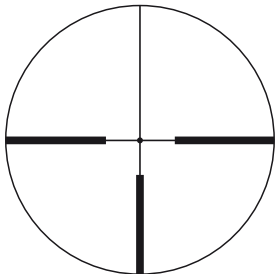

Fig. 3-1
(1) Focusing
- ① Look through the eyepiece with your eye positioned about 10 cm (4 in.) away from the eyepiece to see the IL #4 reticle w/Dot (Fig. 3-1). Be sure your eye is positioned with proper alignment and with proper eye relief, otherwise the view will “black out.”
- ② Point the objective end of the scope at the sky (do NOT point it at the sun) or at a plain unpatterned wall.
- ③ Turn the eyepiece adjustment counter-clockwise and then turn it clockwise until the reticle appears sharp.